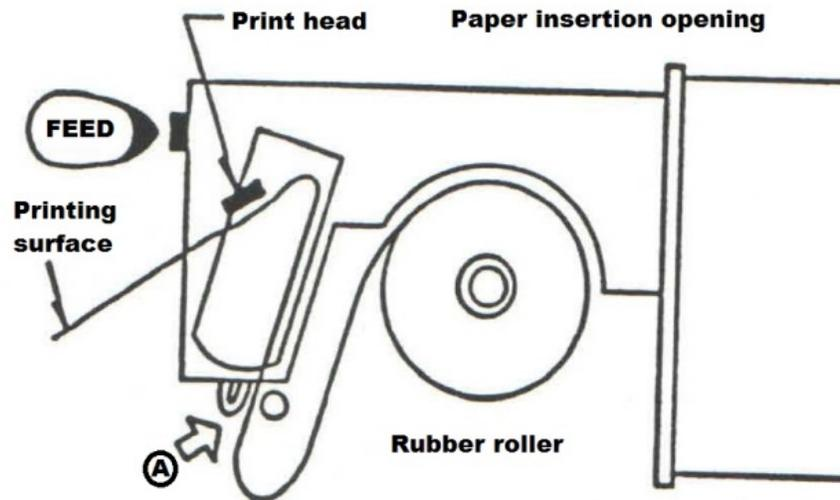

Figure 3
- e. Gently push the paper face down into insertion opening A in figure 3. Make sure the edge of the paper does not fold as you do this.
- i. DO NOT pull out thermal paper roll from the paper INSERTION opening (Marked with an A in figure 3). This may damage the printer.